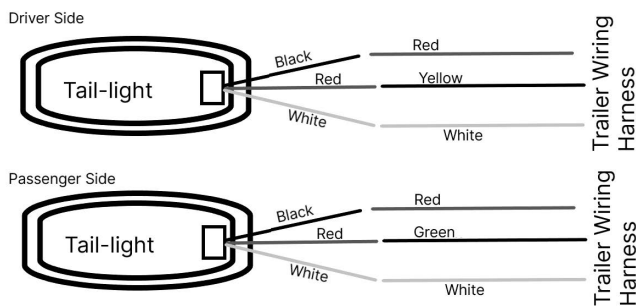

Figure 9: Tail-light wiring diagram.
- a. Remove the rubber grommet from the tail-light (R).
- e. Connect driver side wires as follows by pushing wire connectors together as shown in Figure 9.
- g. Connect passenger side wires as follows by pushing wire connectors together as shown in Figure 9.